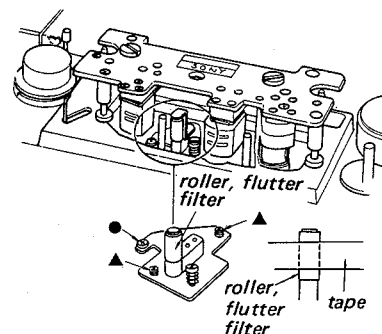

Fig. 3-1-3. Flutter filter roller adjustment
- (1) Remove the Head Cover.
- (2) Thread a tape and set the unit to the play mode.
- (3) Adjust the height of the Flutter Filter Roller by the screws marked ▲ and ● in Fig. 3-1-3 so that the tape runs through the middle of the Flutter Filter Roller.
- (4) Turn the screw marked ● in Fig. 3-1-3 to perform the azimuth adjustment of the Flutter Filter Roller.
- (5) For zenith adjustment turn the two screws marked ▲ in Fig. 3-1-3 to contact the tape uniformly with the record and playback heads.
- (6) Make sure that the Flutter Filter Roller smoothly rotates during tape running. Apply lock paint to the adjusting screws.
See Fig. 3-1-3.